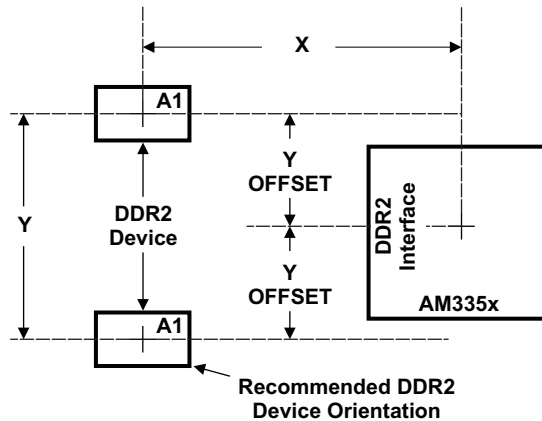

Figure 5-37. AM335x Device and DDR2 Device Placement
Figure 5-37 shows the required placement for the DDR2 devices. The dimensions for this figure are defined in Table 5-42. The placement does not restrict the side of the PCB on which the devices are mounted. The ultimate purpose of the placement is to limit the maximum trace lengths and allow for proper routing space. For single-memory DDR2 systems, the second DDR2 device is omitted from the placement.
- (1) DDR2 keepout region to encompass entire DDR2 routing area.
- (2) For dimension definitions, see Figure 5-37.
- (3) Measurements from center of AM335x device to center of DDR2 device.
- (4) For single-memory systems, it is recommended that Y offset be as small as possible.
- (5) w is defined as the signal trace width.
- (6) Non-DDR2 signals allowed within DDR2 keepout region provided they are separated from DDR2 routing layers by a ground plane.